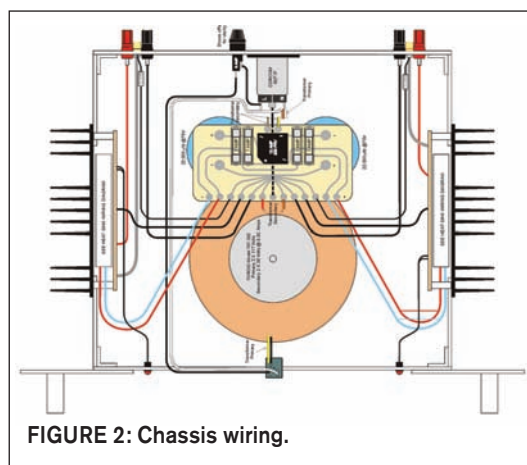

FIGURE 2: Chassis wiring.
- I made the chassis (Fig. 2) from 1/8" aluminum that I bought from a local surplus metal supplier. If you contact me, I will forward you detailed dimensioned drawings (christie.bill@gmail.com).